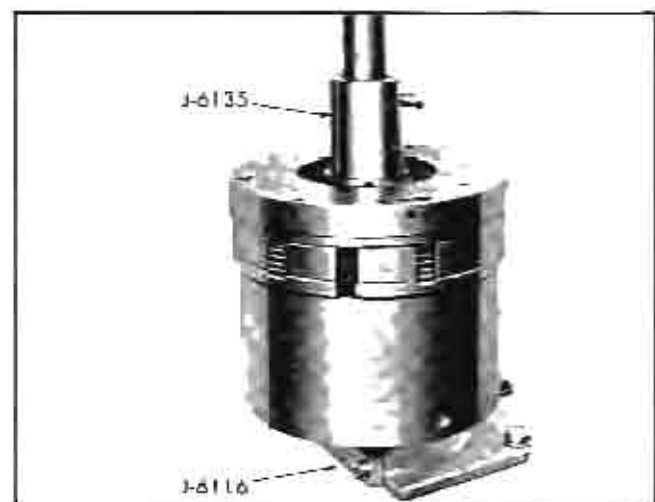

Fig. 63 Clutch Units Installed in Holding Fixture
14. Rest rear unit, neutral clutch, and case support assembly in holding fixture J-6116, output shaft down (Fig. 63).